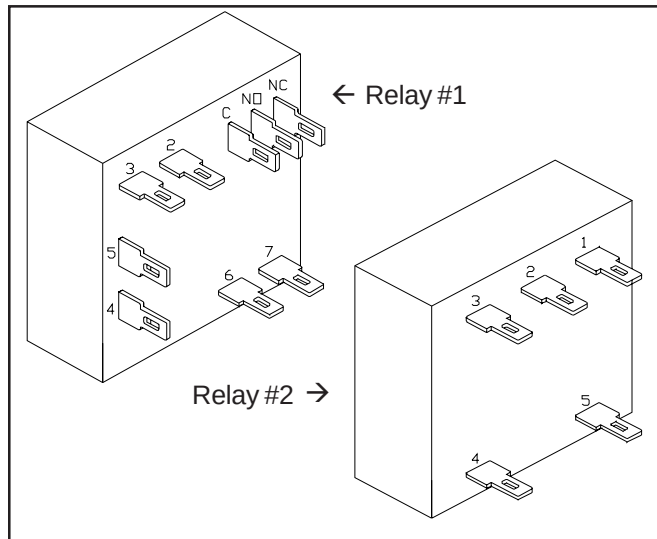

Fig. 7 - Time Delay Relay
1. Remove the wire connecting the blender timer potentiometer to the time delay relay (Fig.7).